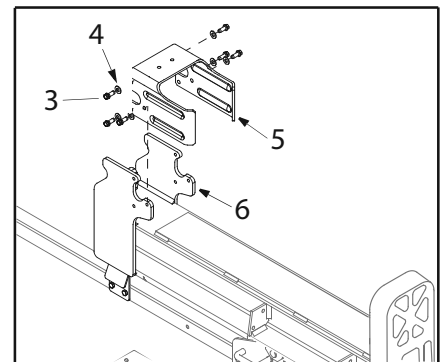
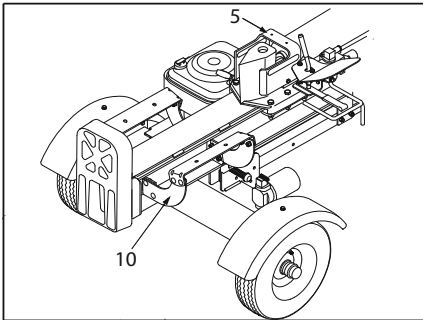

Fig. 7
Fig. 9b
- Disconnect the stripper (5) – by removing the six bolts (3) and the washers (4) from the mount block (6) welded to the column (Fig. 7).
- Re-attach the stripper (5) above the wedge module and screw to the welded-on mount block with the previously removed small parts (see Fig. 7). **Fig. 9b**
- Re-attach support (10) to the control valve side of the splitting column, aligning the ends of the support with the column flanges. See **Fig. 9b**.